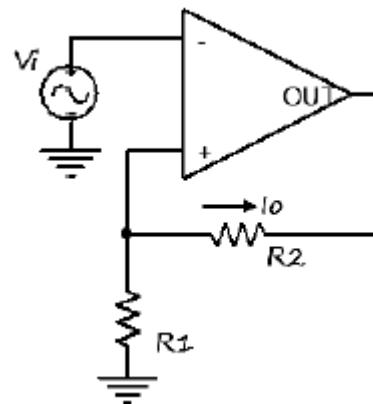

Figure 17.75: Voltage-to-Current converter
- Voltage-to-current converter is a transconductance amplifier (Figure 17.75).